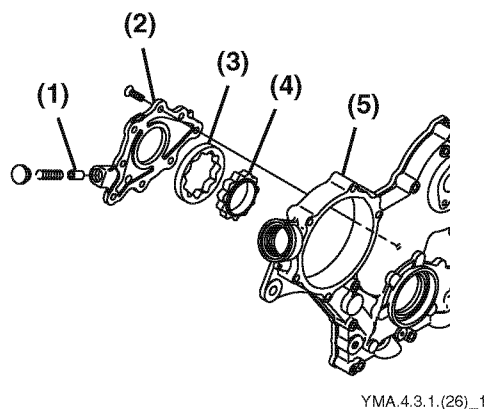

Figure 5-93
1. Remove the oil gear housing cover bolts and remove the cover (Figure 5-93, (2)).
2. Remove the oil pump from the oil gear housing cover (Figure 5-93, (5)).